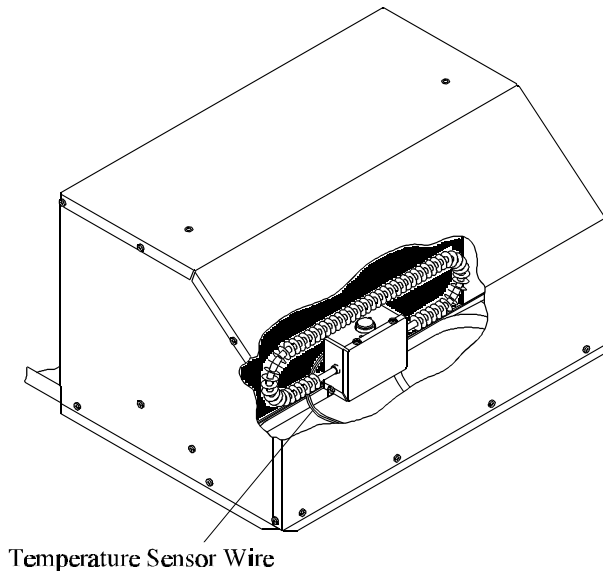
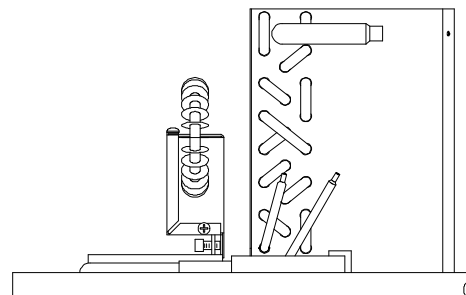

FIGURE 4
FIGURE 6
In the small parts package of the ceiling plenum is a low temperature sensor. The low temperature sensor (See Figure 4) installs by inserting it straight in between the two lower evaporator tubes until contacting a tube, then raising the back of the probe and continuing at a 45 degree angle until the probe is **fully** inserted.
To gain access to the fins of the evaporator coil, reach up through the return air opening in the bottom of the roof top unit. Insure that the thermister wire is routed to avoid contact with the electric heater element, and the thermister is located so as to be “shaded” by the heater control box (See Figure 4).
1. Position the heater assembly into the return air opening as shown in Figure 4. Insure that the set screw is retracted sufficiently to allow installation over the basepan extrusion (See Figure 6).